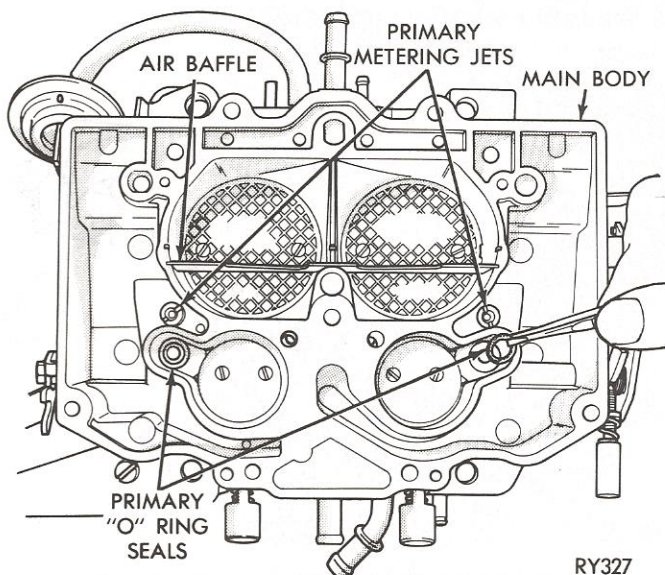

Fig. 14—Removing or Installing Primary "O" Rings and Metering Jets
- (1) Remove primary "O" ring seals and discard.
- (2) Remove primary metering jets (Fig. 14).
(12) Refer to carburetor adjustments when checking float height.
(13) Install accelerator pump passage tube (plastic).
(14) **Examine primary "O" ring seals in bottom of main body to be certain that they are centered over holes (Fig. 14) then carefully lower bowl cover down on main body. The "O" rings will hold the bowl cover up slightly until screws are installed. Be sure bowl vent operating lever engages bowl vent actuating lever. Install ten cover screws and tighten to 35 inch-pounds, in two operations.**
(15) Install fuel inlet fitting with a new gasket and tighten securely.
(16) Install fuel line "L" hose and clamp securely.